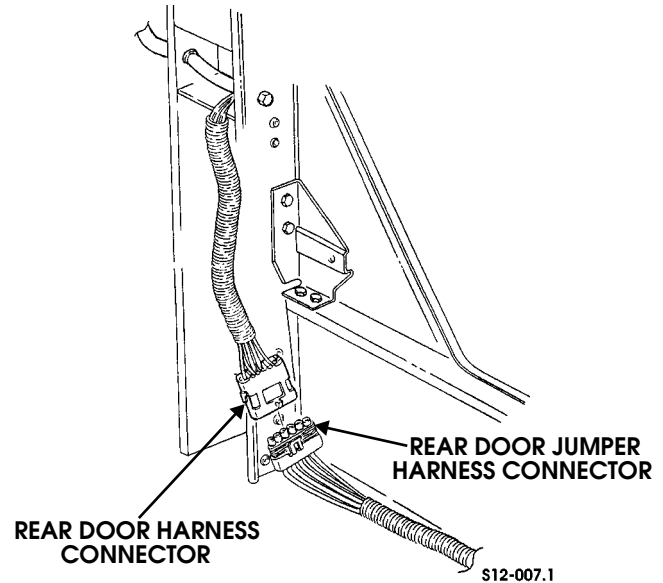

Figure 12-132: Power Windows and Door Locks Rear Door Harness and Rear Door Jumper Harness
3. Disconnect jumper harness connector from power windows and door locks rear door harness connector (Figure 12-132).
1. Connect jumper harness connector to power windows and door locks rear door harness connector (Figure 12-132).